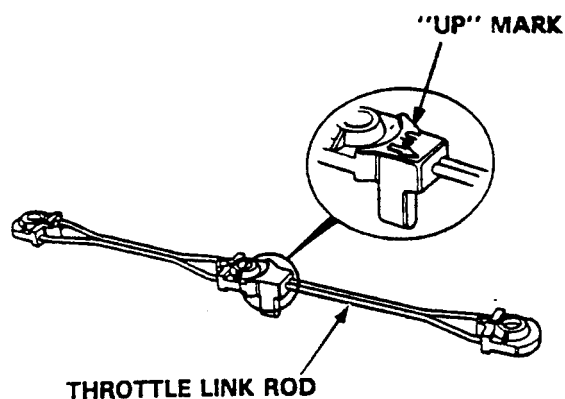

Fig. 14-15 Throttle-link marking
1. Assemble the 6mm plain washer (10) to the 6 x 28mm bolt (9) followed by the choke arm.
2. The choke-control arm and choke-rod assembly (12) should then be fitted followed by the 6,5 x 10,5 x 16mm collar (13) and 6mm plain washer (14).
4. Tighten the 6 x 28mm bolt (9) to a torque of 12Nm.
5. Fit the throttle link rod to the carburetors with the 'UP' and arrow at the centre of the rod facing upwards (Fig. 14-15).